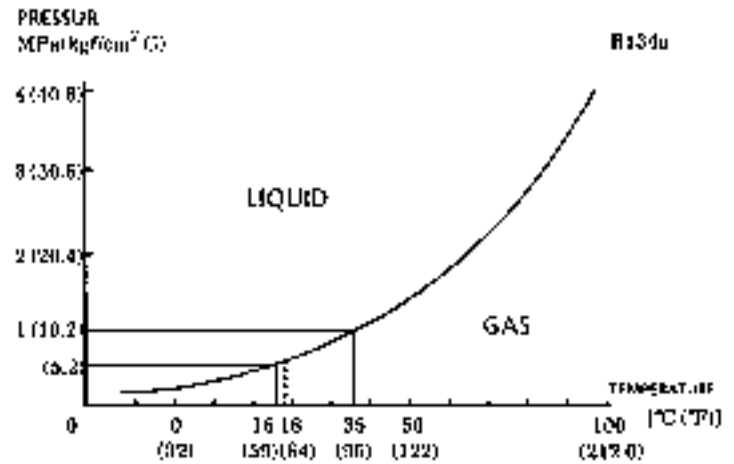

Fig. 5 Pressure-temperature characteristics of R134a
(2) Characteristics of Refrigerant (See Fig.5.)
Fig.5 illustrates the relationships between the saturation temperature and the saturation pressure in the case of refrigerant R134a used in the air-conditioner. At the temperature and the pressure on the lower righthand side of the curve in Fig.5, the refrigerant take a gaseous state, while at the temperature and the pressure on the upper left-hand side of the curve, the refrigerant takes a liquid state.
Let us think of a case where an air-conditioner is operated in the midst of summer. As the refrigerant evaporates, it absorbs evaporation heat from the air of the compartment. In order to cool the inside of the compartment down to 25°C (77°F), the refrigerant must transform (evaporate) from a liquid to a gaseous state at a lower temperature. It can be seen from Fig.5 that R134a under a pressure above the atmospheric pressure is capable of cooling the inside of the compartment sufficiently. (If a refrigerant that requires a pressure below the atmospheric pressure to cool it to a required temperature is used, air is mixed into the circuits, thereby deteriorating the performance of the cooling unit.) In the process in which gaseous refrigerant is brought back to a liquid state, the refrigerant is cooled and condensed by the outer air exceeding 35°C (95°F).
Accordingly the refrigerant is capable of condensing at a pressure exceeding 10.2kgf/cm²G (145psi-G), as seen from Fig.5.
In this circuit diagram, the portion that cools the air of the compartment is the evaporator. The object air is cooled off by utilizing the fact that the refrigerant takes heat off the surrounding area as evaporation heat as it evaporates in the cooling circuit. Since the part at which vaporization of the refrigerant takes place is the evaporator, cooled air is constantly delivered to the circumference of the evaporator by the blower fan. In the meantime, liquid refrigerant (slightly wet vaporized refrigerant) is fed into the evaporator, when "cooling" effect is attained. For instance, in order to cool the air to 15°C (59°F), the refrigerant can not absorb evaporation heat from the air unless it evaporates at a temperature lower than 15°C (59°F). For that purpose, it can be seen from Fig.5 that the pressure of the refrigerant in the evaporator must be less than 5.2kgf/cm2G (74psi-G).